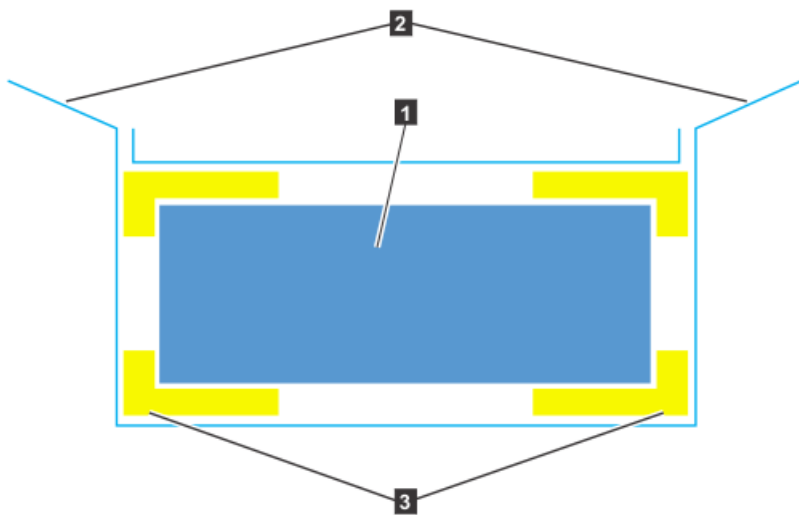

Figure 13. Packaging materials
3. Cut the corners of the shipping box and fold them down to uncover the sides and faces of the expansion enclosure, as shown in Figure 13 on page 40.